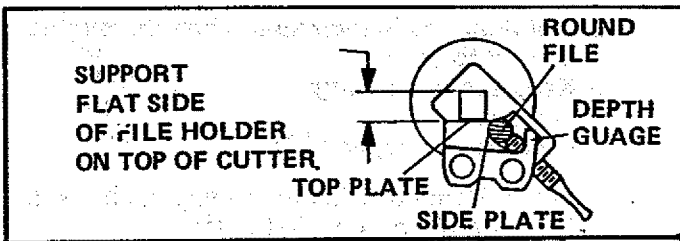

Figure 36
- Support flat side of file holder (with 7/32" round file) on cutter top plate. Figure 36.